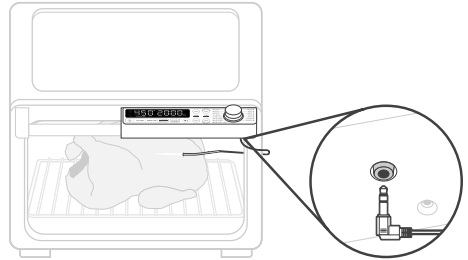

Figure 3.3
2. Place the food into the oven. Plug the thermometer into the thermometer input. **[Figure 3.3]**